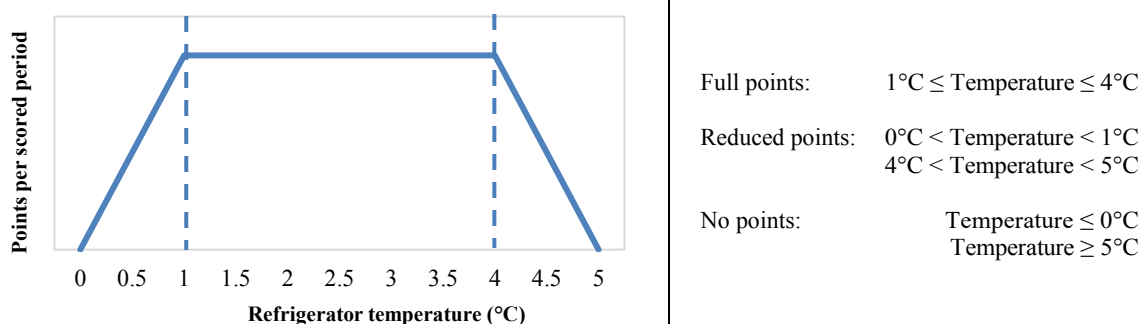

Figure 6 Scoring function for the Refrigerator Subcontest
- Reduced points are earned if the time-averaged interior refrigerator temperature is between 0°C and 1°C or between 4°C and 5°C. Reduced point values are scaled linearly, as shown in Figure 6.